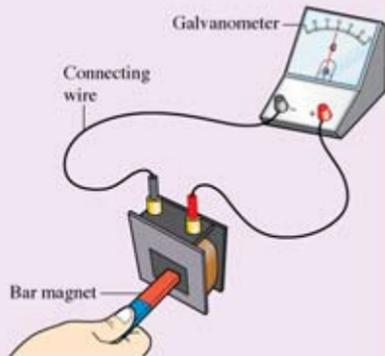

Figure 4.23
1. Set up the apparatus as shown in Figure 4.23.